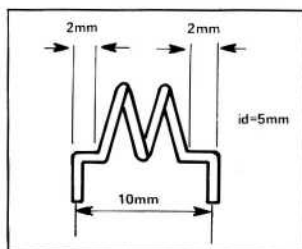

Figure 3: Winding details of L7 and L8.
5. Wind L7 and L8 (2 turns on a 5mm diameter drill bit), and form the leads as shown in Fig.3. Solder to the PCB. Fit the taps at $\frac{1}{2}$ turn to L7 and L8 as described for L5.